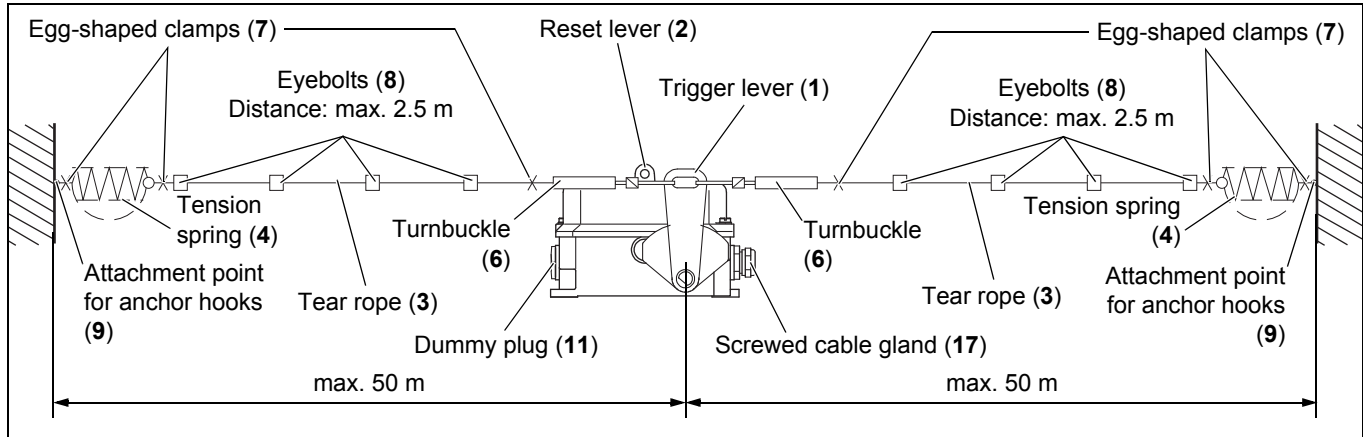

Fig. 5-2: Mounting on the conveyor structure
- The pull-rope emergency stop switch must be mounted at the midway point between the attachment points of the anchor hook (9). Deviation of up to 3 % of the distance between the pull-rope emergency stop switch and the relevant attachment point is permitted.
- The distance between the attachment points of the anchor hooks (9) must not exceed 100 m.
- The attachment points for the anchor hooks (9) must be constructed from sturdy mechanical components.
- The distance between the eyebolts (8) must not exceed 2.5 m (*see fig. 5-2*).
You will also require the following KIEPE accessories for further mounting of the pull-rope emergency stop switches on the conveyor structure (see *figures 5-2 and Section 7.2: "Ordering replacement parts and accessories", page 34*):
3. Place the anchor hooks (9) on the attachment points (*see fig. 5-2*).